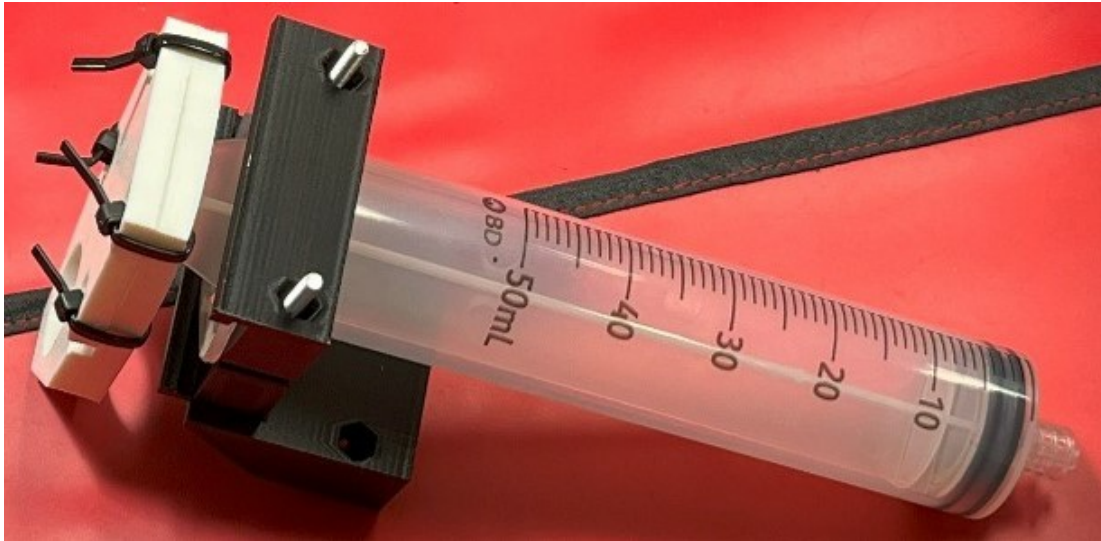

Figure 12. 3-D printed parts #4 and #6 attached to the syringe barrel.
- 14.6** Attach 3-D printed part #4 and #6 around the syringe, making certain the syringe barrel numbers are facing toward 3-D part 6 (Figure 12). Use (2) M3 machine screws and (2) M3 hex nuts to secure 3-D printed parts #4 and #6 together.